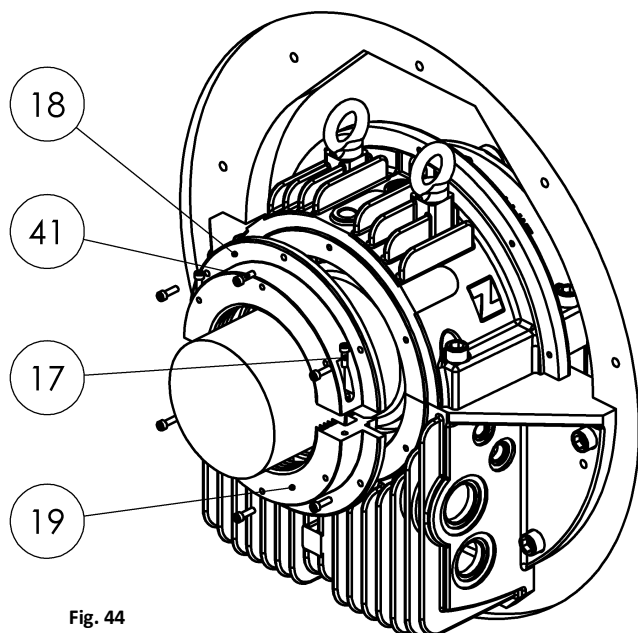

Fig. 44
- Tighten the fastening screws (41) of split line with the suitable torques (fig. 44).
- Tighten the fastening screws (17) of split line with the suitable torques (fig. 44).